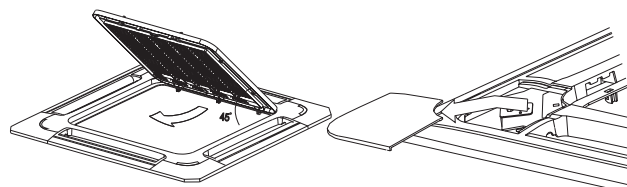

Fig. 5-10
- Draw the grill up to an angle of about 45°, and remove it. (Refer to fig.5-10)